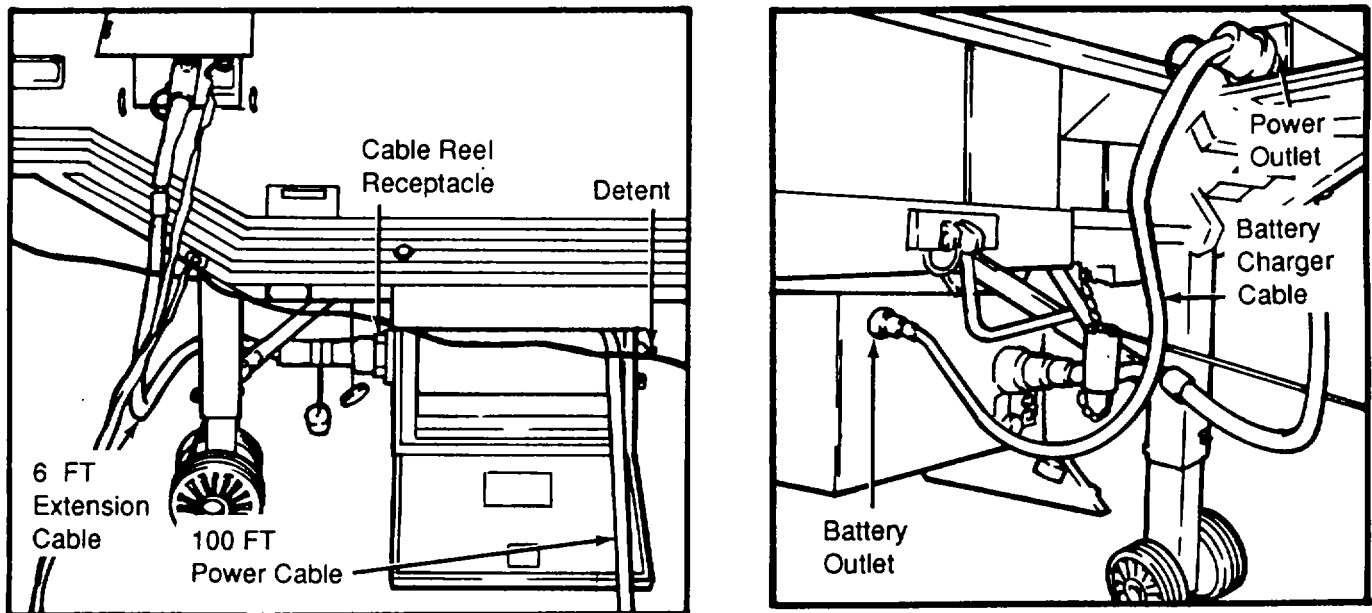

Figure 2-4. Cable Reel Assembly
(7) Deploy the power cable assembly as follows (Refer to Figure 2-4):